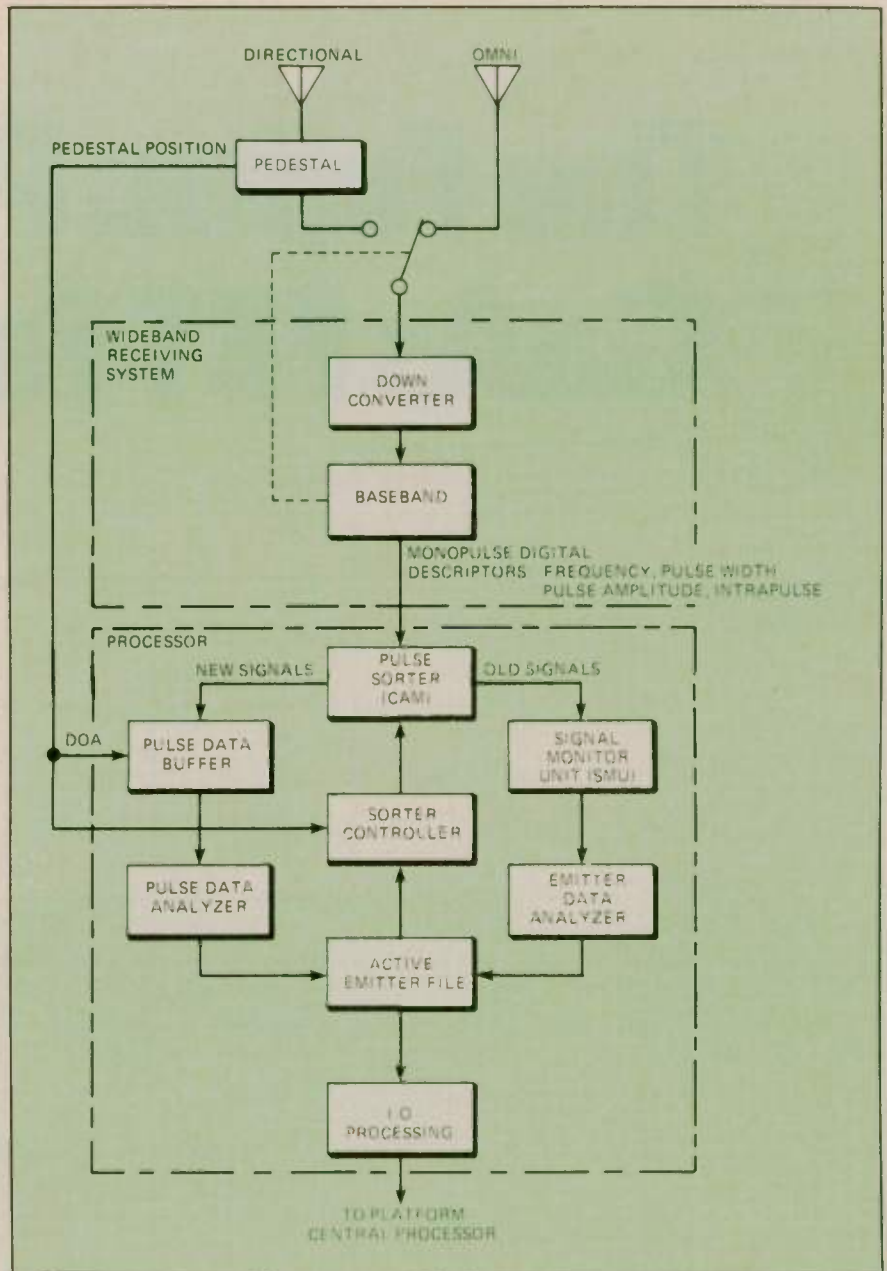

Fig. 14 Wideband ESM system/processor block diagram.
Alternatively, a very broadband directional search reduces data rate, also providing an overall increase in system sensitivity due to antenna gain, increasing the ESM system detection range. The directional search can be achieved by mechanically or electronically scanned antennas. The organization of a processor for this type of system is shown in Figure 14. The objective is to detect significant changes in previously seen emitters and then to immediately identify new emitters from the dense redundant, mostly uninteresting signal environment.
The omnidirectional antenna of Figure 14 provides the function of sidelobe discrimination, i.e., prevents the system from detecting signals on the side and backlobes of the directional antenna. This is a vital system function since it: (1) ensures correct measurement of the emitter di-